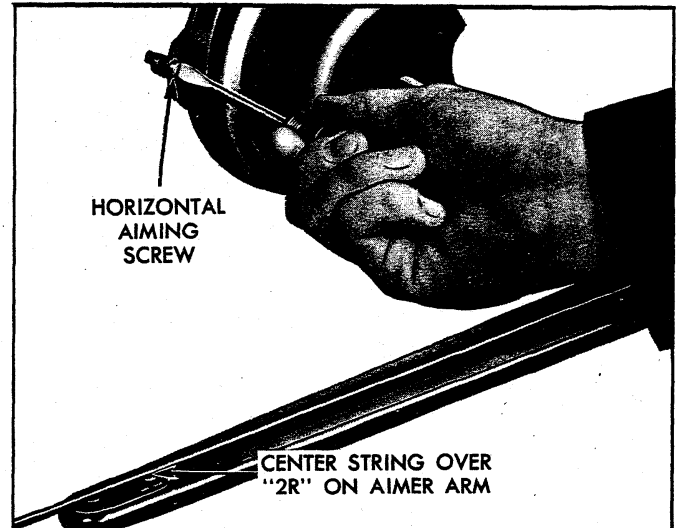

Fig. 4—Headlamp Horizontal Adjustment
7. a. Turn horizontal aiming screw, Figure 4, on left-